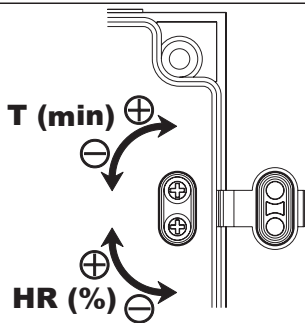

Fig.10
The desired humidity level is selected by means of a potentiometer “% Hr” positioned on the printed circuit board (fig.10) and accessible once the grille (1) has been removed.
To set the timer, turn the potentiometer “t min.” on the printed circuit board (fig.10):